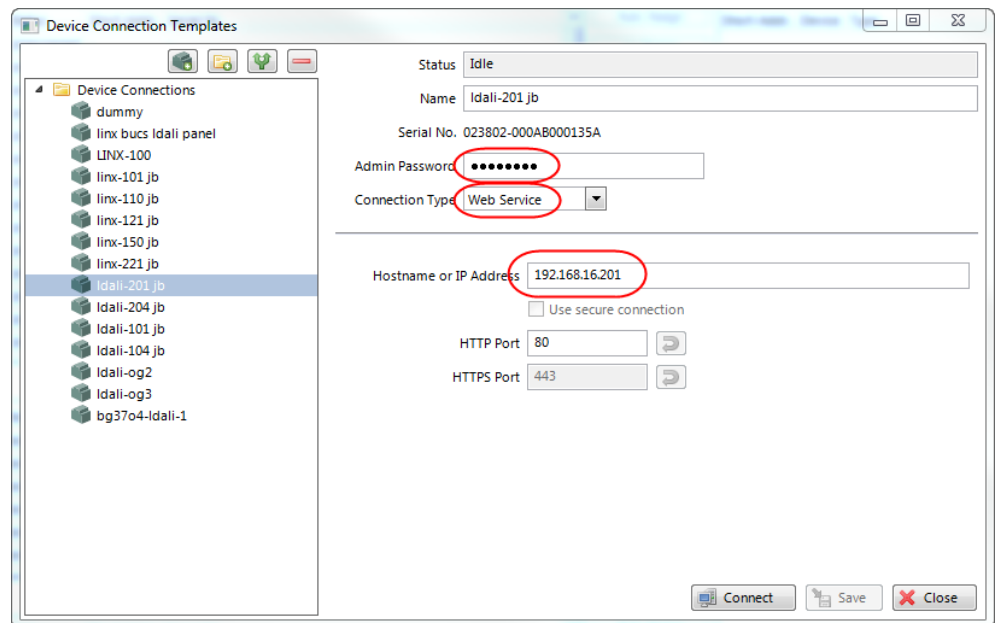

Figure 60: LINX Configurator software, Connection Dialog.
2. In the Connection dialog (see Figure 60) choose connection type “Web Service”, enter the IP address or hostname of the L-DALI and the devices “admin” password. The default “admin” password is ‘loytec4u’ (older firmware versions used ‘admin’).